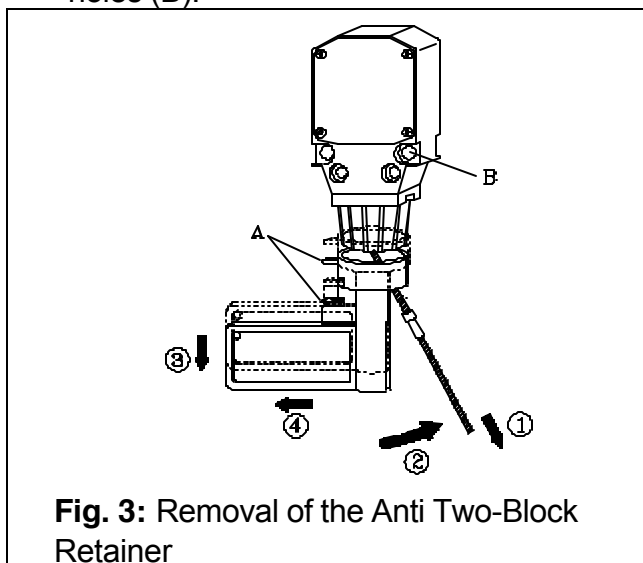

Fig. 3: Removal of the Anti Two-Block Retainer
Removal and Storage Procedure (see Fig. 3 and 4): Pull the cable out of the switch (1) and bend back parallel to the boom and hold (2). Move the retainer down (3) and then left (4) to remove it from the Anti Two-Block switch. Release the cable. For storage slide the retainer from right side (5) over the Anti Two-Block switch until the clips (A) lock into the holes (B).